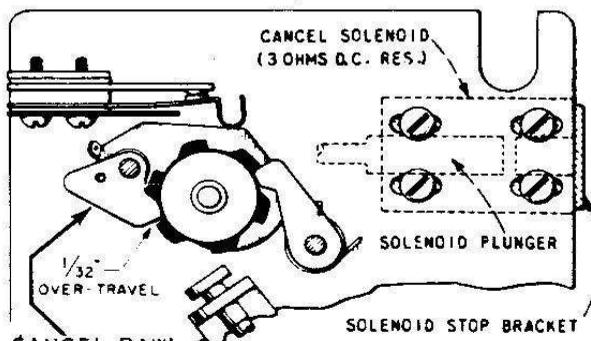

Figure 4.
2. Adjust the position of the Cancel Solenoid Stop Bracket so the Cancel Pawl overtravels the ratchet teeth approximately  $1/32''$  when the solenoid plunger bottoms against the Stop. Set the Stop mounting screws firmly after adjustment. See Figure 4.